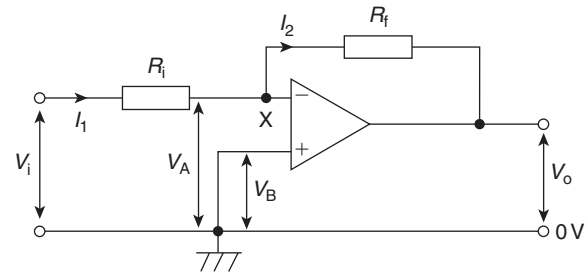
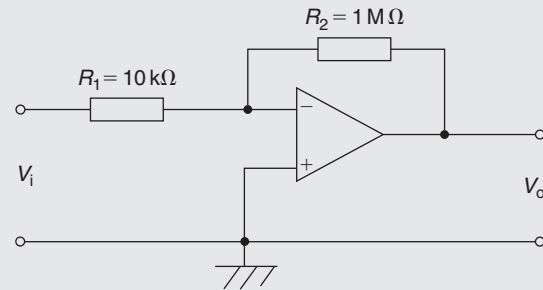

Figure 19.5
Figure 19.6
Operational amplifiers nearly always use **negative feedback**, obtained by feeding back some, or all, of the output to the inverting ($-$) input (as shown in Fig. 19.5 in the next section). The feedback produces an output voltage that opposes the one from which it is taken. This reduces the new output of the amplifier and the resulting closed-loop gain A is then less than the open-loop gain A_o . However, as a result, a wider range of voltages can be applied to the input for amplification. As long as $A_o \gg A$, negative feedback gives:
The basic circuit for an inverting amplifier is shown in Fig. 19.5 where the input voltage V_i (a.c. or d.c.) to be amplified is applied via resistor R_i to the inverting (–) terminal; the output voltage V_o is therefore in anti-phase with the input. The non-inverting (+) terminal is held at 0 V. Negative feedback is provided by the feedback resistor, R_f , feeding back a certain fraction of the output voltage to the inverting terminal.
- (ii) the inputs are both at the same potential if the op amp is not saturated, i.e. $V_A = V_B$ in Fig. 19.5
In Fig. 19.5, $V_B = 0$, hence $V_A = 0$ and point X is called a **virtual earth**. Thus,
Problem 4. In the inverting amplifier of Fig. 19.5, $R_i = 1\text{ k}\Omega$ and $R_f = 2\text{ k}\Omega$. Determine the output voltage when the input voltage is: (a) +0.4 V (b) −1.2 V.
Problem 5. The op amp shown in Fig. 19.6 has an input bias current of 100 nA at 20 °C. Calculate (a) the voltage gain, and (b) the output offset
Comparing Fig. 19.6 with Fig. 19.5, gives $R_i = 10\text{ k}\Omega$ and $R_f = 1\text{ M}\Omega$
(c) The effect of input bias current can be minimised by ensuring that both inputs ‘see’ the same driving resistance. This means that **a resistance of value of 9.9 kΩ (from part (b)) should be placed between the non-inverting (+) terminal and earth** in Fig. 19.6
With reference to Fig. 19.5, and from equation (5),
4. In the inverting amplifier of Fig. 19.5 (on page 298), $R_i = 1.5\ \text{k}\Omega$ and $R_f = 2.5\ \text{k}\Omega$.